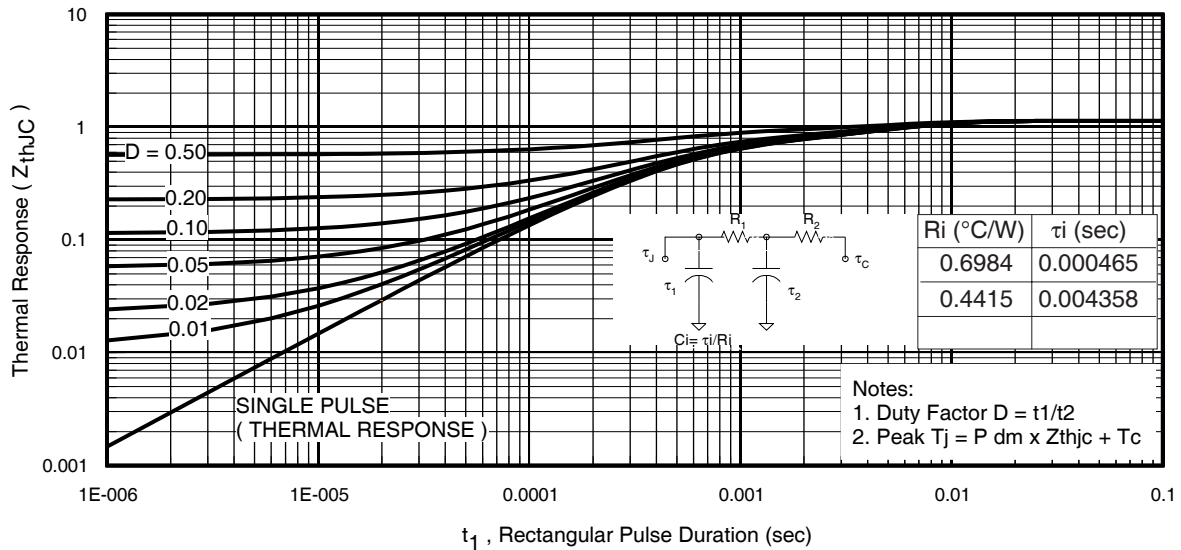
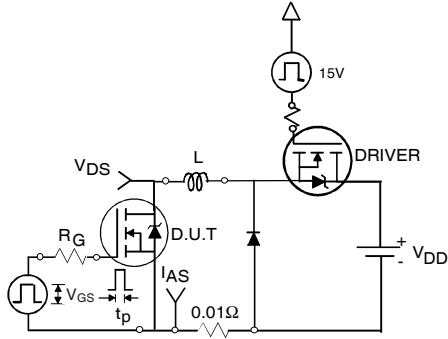

Fig 11. Maximum Effective Transient Thermal Impedance, Junction-to-Case
Fig 12a. Unclamped Inductive Test Circuit
3. Equation below based on circuit and waveforms shown in Figures 12a, 12b.
$Z_{thJC}(D, t_{av})$ = Transient thermal resistance, see figure 11)
- ① Repetitive rating; pulse width limited by max. junction temperature. (See fig. 11).
- ② Limited by T_{Jmax} , starting $T_J = 25^\circ\text{C}$, $L = 0.12\text{mH}$, $R_G = 25\Omega$, $I_{AS} = 42\text{A}$, $V_{GS} = 10\text{V}$. Part not recommended for use above this value.
- ③ Pulse width $\leq 1.0\text{ms}$; duty cycle $\leq 2\%$.
- ④ C_{OSS} eff. is a fixed capacitance that gives the same charging time as C_{OSS} while V_{DS} is rising from 0 to 80% V_{DSS} .
- ⑤ Limited by T_{Jmax} , see Fig.12a, 12b, 15, 16 for typical repetitive avalanche performance.
- ⑥ This value determined from sample failure population. 100% tested to this value in production.
- ⑦ When mounted on 1" square PCB (FR-4 or G-10 Material). For recommended footprint and soldering techniques refer to application note #AN-994
- ⑧ R_θ is measured at T_J approximately 90°C